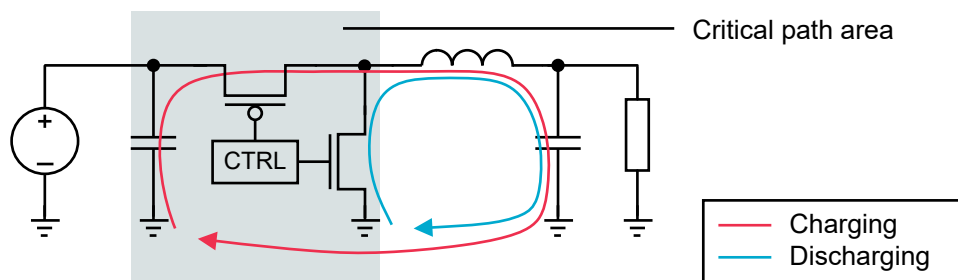

Figure 3: Buck regulator switching cycles
- In buck regulators, the input has the highest rate of current change ( $di/dt$ ). Therefore input routing loop area and impedance are critical. See figure Figure 3: Buck regulator switching cycles on page 10.